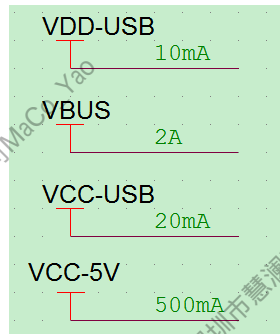

Figure 2-31 The Operating Voltage and Current Label of USB
- Mark the operating voltage and the maximum operating current of USB power in the schematic diagram to facilitate PCB layout design. As shown in Figure 2-31.